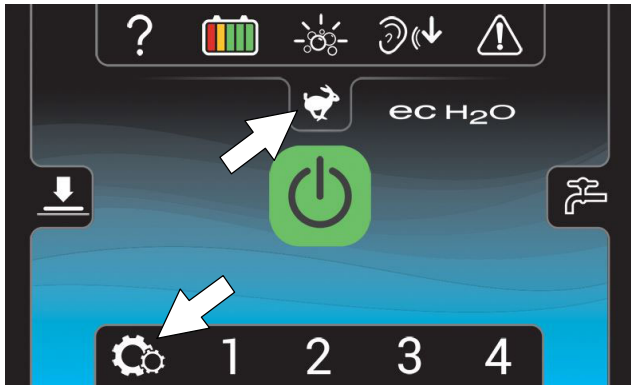

FIG. 145
**Supervisor Mode** - Capable of machine operation with full use of all controls, along with configuring permissions and restrictions for the operator mode and login capability. The supervisor mode home screen provides access to the machine settings button and to the maximum scrub speed button (Figure 145).